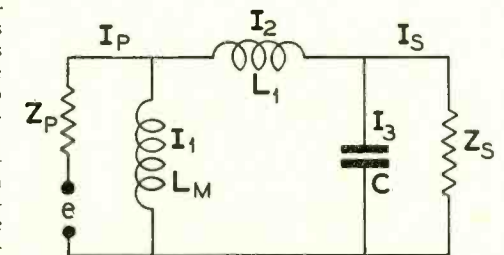

FIG. 3
**N**OW let us think about where we must MATCH impedances. After we have decided on the impedance which we wish to REFLECT into our tube's plate circuit, whether it be at audio or radio frequencies, we must MATCH from there on. Fig. 3 shows four transformers between the tube and the load, which is indicated by the resistance R. Whatever the impedance ratios of these transformers may be, they must all match each other so that the load resistance R, when reflected back through all the transformers, must equal whatever load resistance we have decided on for our tube.
Unfortunately, in practice, transformers which are 100% efficient are not obtainable. A physical transformer is illustrated in Fig. 2(a) and its equivalent T network in circuit is shown in Fig. 2(b). Here  $R_p$  and  $R_s$  are respectively the primary and secondary resistances;  $X_p$  and  $X_s$  are respectively the primary and secondary leakage reactances;  $C_p$  and  $C_s$  are respectively the distributed capacitances of the primary and the secondary and their attendant circuits. In a physical transformer,  $M$  is not infinite, as some current is taken through the primary circuit with the secondary open. This is the current required to set up the flux in the core. Power is also absorbed in  $R_c$  which includes the  $I^2R$  losses in the coil windings and a small amount of loss occasioned by the eddy current losses and hysteresis losses in the core. These core losses can be reduced to an inconsiderable value if quality core materials such as the nickel iron alloys and powdered iron are used. The winding resistances are generally of small magnitude and having no frequency discrimination can normally be eliminated. This allows us to simplify our equivalent circuit still further as per figure 3, where the leakage reactance  $L_1$  and distributed capacitance  $C$  are lumped.
Examining Fig. 3 once more, it is seen that as the frequency increases  $L_1$  increases in impedance. This naturally throws a series loss in the secondary circuit such that  $I_2$  and the following currents  $I_1$  and  $I_s$  are reduced. The leakage inductance  $L_1$  is due to imperfect flux coupling between the primary and secondary. If the co-efficient of coupling in the above transformer were .995, the leakage would be .5%. This would be at 20 cycles .5% of 325 ohms or 1.625 ohms. At this frequency, it is evident that the leakage reactance loss is negligible. However, the impedance of  $L_1$  at 20,000 cycles, varying directly with frequency, would be 1625 ohms. Naturally, in a 500 ohm circuit this would be a very great loss.